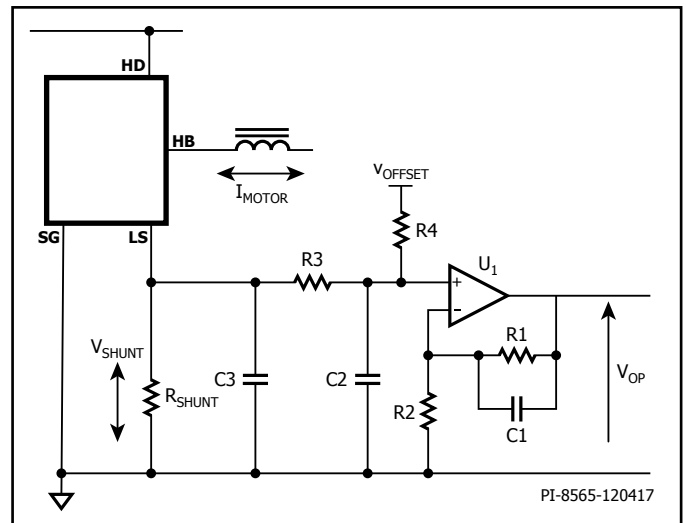
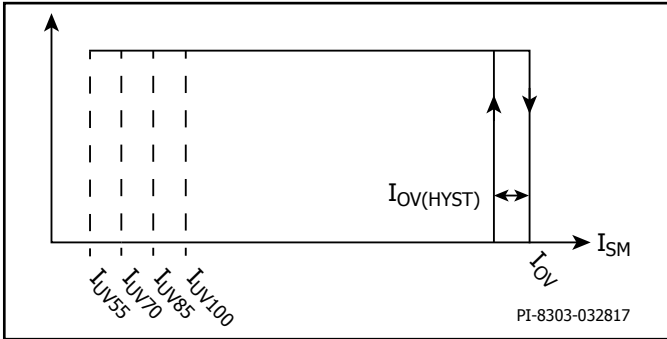

Figure 14. External Current Sense Example Circuit (BRD116X).
Figure 16. System Monitor Input Current Thresholds.
BRD116X devices support discrete low-side FREDFET current sensing through an external current sense resistor in series with the LS pin. Figure 14 depicts one possible implementation example.
BridgeSwitch features system level monitoring through the SYSTEM MONITOR input. The SM pin supports monitoring either the high-voltage (HV) DC bus (see Figure 14) or the temperature of an external component through an NTC thermistor (see Figure 16). The SM pin is self-configuring. It automatically detects the type of external connection and locks in the respective circuitry configuration at power-up.
The bus voltage sensing circuitry has five distinct current thresholds as shown in Figure 16. Thresholds I_{UV55} , I_{UV70} , I_{UV85} , and I_{UV100} are used to detect high-voltage bus undervoltage conditions. Threshold I_{OV} is used to detect a high-voltage bus overvoltage condition. The device reports a high-voltage bus fault through the STATUS COMMUNICATION pin anytime the current into the SM pin either drops below one of the four undervoltage thresholds or if it exceeds the overvoltage threshold (see Table 4 for details).